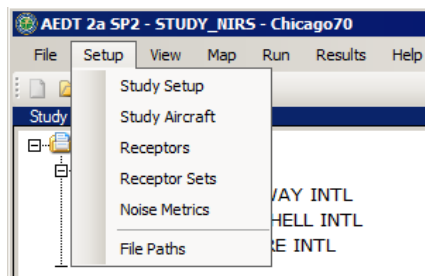

Figure 5-10 Study Setup from Setup Menu
- From the menu bar select *Setup, Study Setup* (Figure 5-10); or